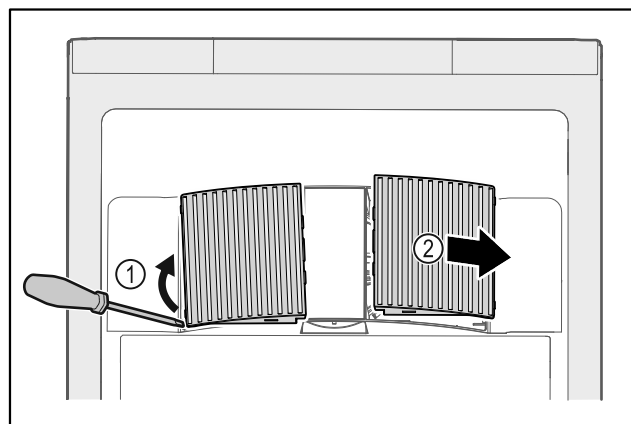

Fig. 34
- ▶ Carefully lever out fan covers from the side Fig. 34 (1) and remove towards the front Fig. 34 (2).